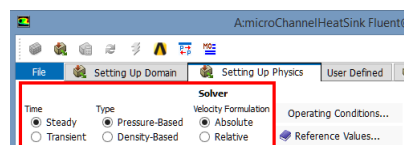

Figure 35: Solver options selection.
- In the *Solver* group leave the default selection of *Steady*, *Pressure-Based* solver with *Absolute Velocity Formulation*, as shown in figure 35.